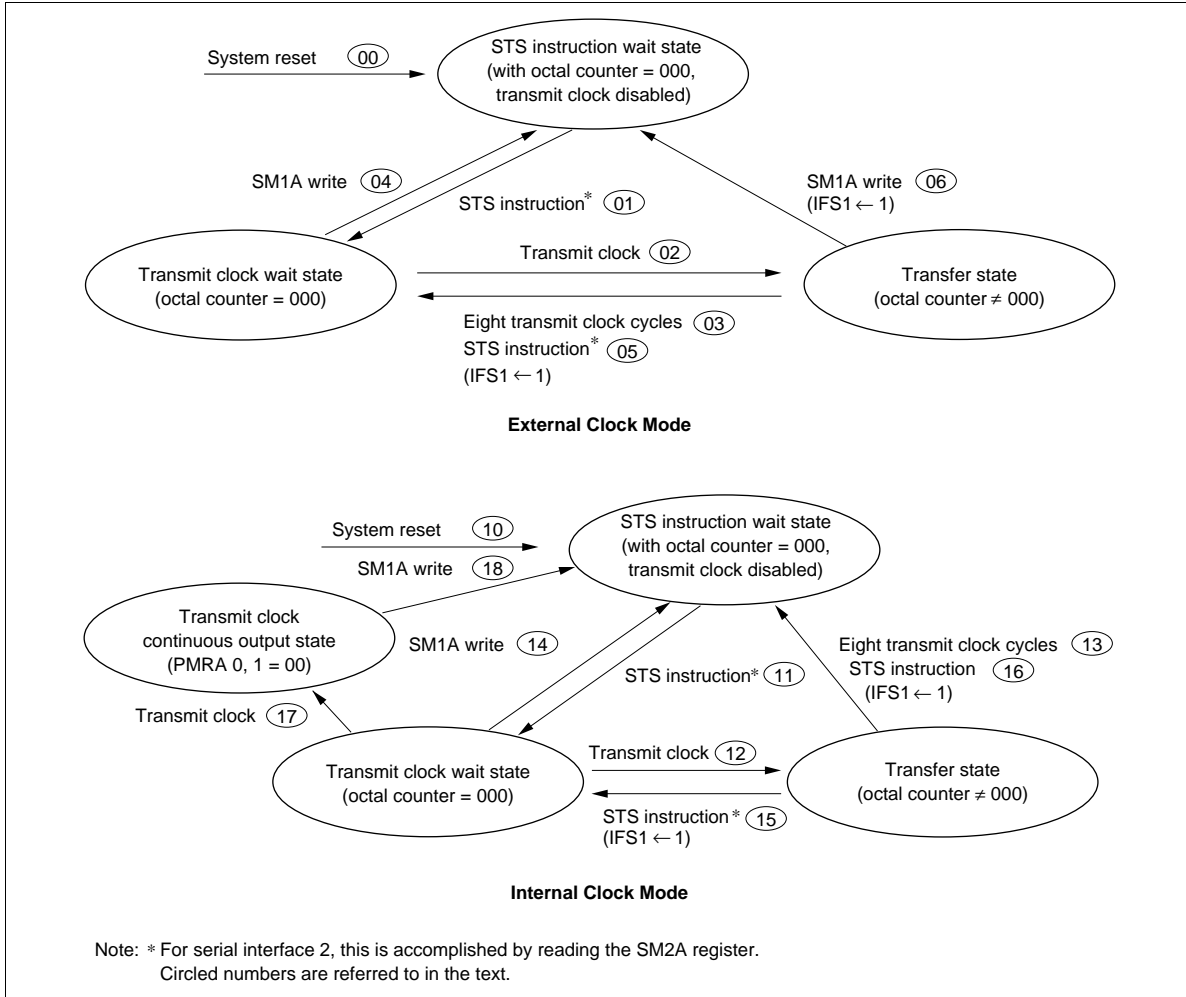

Figure 67 Serial Interface State Transition Diagram
Operating States: Serial interface 1 has the following operating states; transitions between them are shown in figure 67.
- STS wait state: The serial interface enters STS wait state by MCU reset (00, 10 in figure 67). In STS wait state, serial interface 1 is initialized and the transmit clock is ignored. If the STS instruction is then executed (01, 11), serial interface 1 enters transmit clock wait state.
- **Transmit clock wait state:** Transmit clock wait state is the period between the STS execution and the falling edge of the first transmit clock. In transmit clock wait state, input of the transmit clock (O2, 12) increments the octal counter, shifts serial data register 1 (SR1L: \$006, SR1U: \$007), and puts the serial interface in transfer state. However, note that if continuous clock output mode is selected in internal clock mode, the serial interface does not enter transfer state but enters continuous clock output state (17).